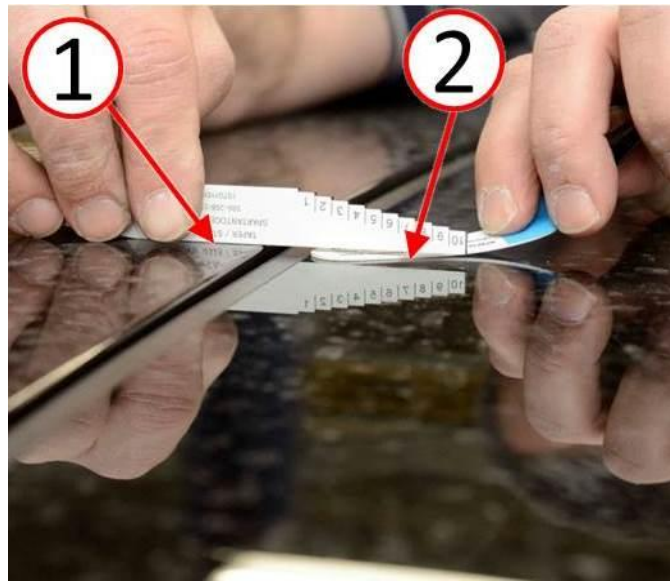

Fig. 10 Sunroof Glass Panel Flushness Measurement
16. Use a non-marring straight edge and feeler gauge or equivalent tool to measure flushness of the sunroof glass panel (2) in relation to the vehicle roof surface (1) while performing the following flushness adjustment steps (Fig. 10).